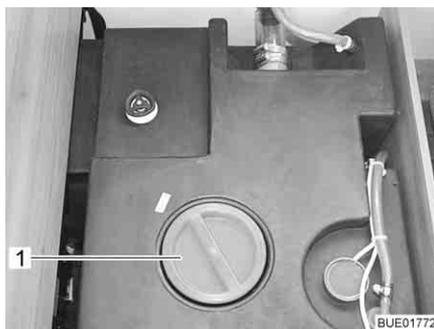
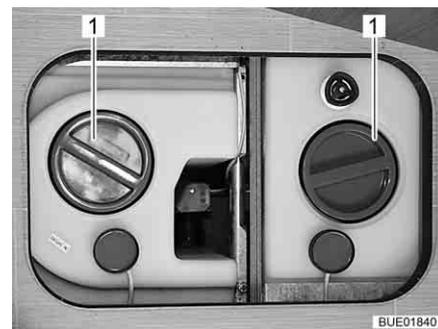

Fig. 258 Water tank with handle (Viseo)
Fig. 259 Water tank with handle (Elegance)
- Remove the cap (Fig. 258,1 or Fig. 259,1) of the water tank.